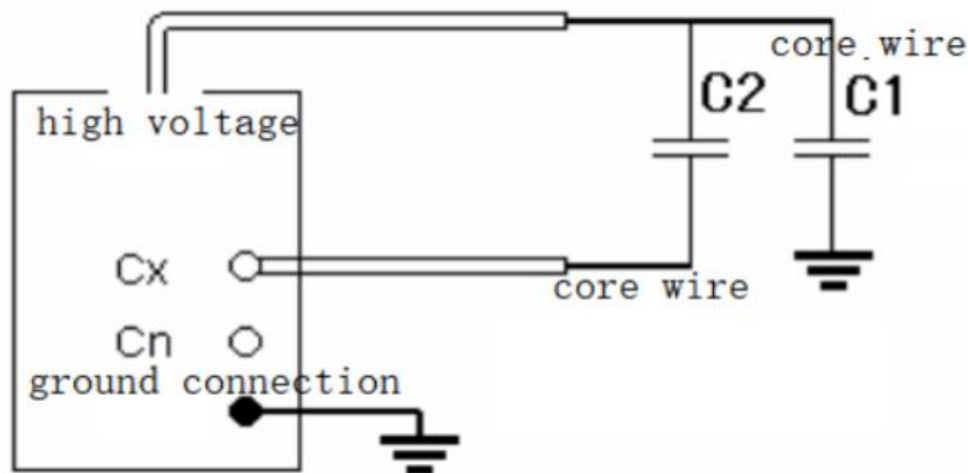

Figure 18
8.Measurement of low-voltage shield of reverse connection(GSTG) (see Figure 18)